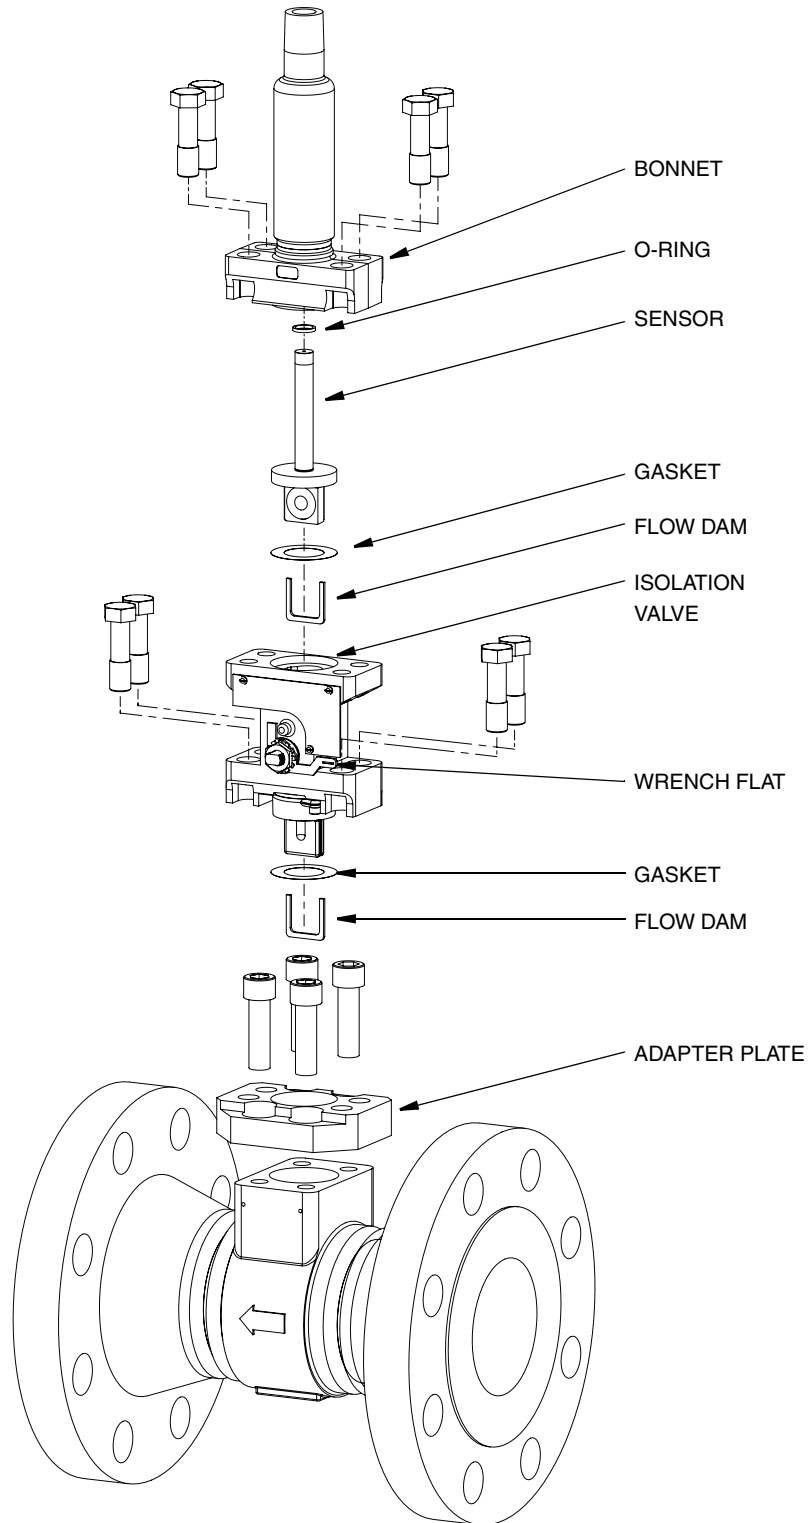

Figure 65. Single Isolation Valve (Style B)
4. Install a new gasket and flow dam on the lower section of the isolation valve body, and push the isolation valve into the sensor pocket of the Vortex flowmeter. Refer to Figure 65. These are the same gaskets and flow dams used with sensors.